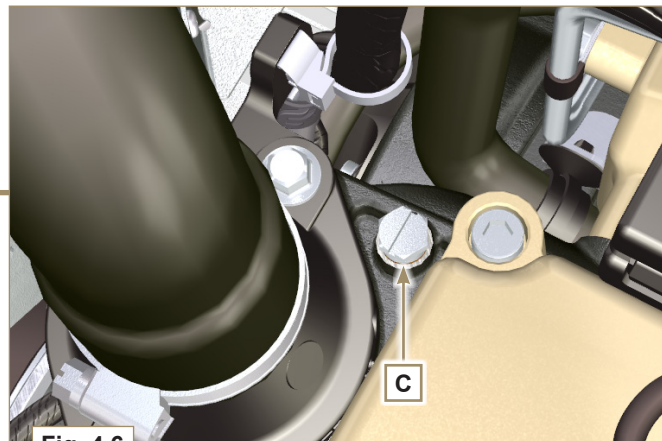

Fig. 4.6
- 4 - Loosen the screw **C**, release any air and tighten the screw **C** (Tightening torque of 8 Nm - Fig. 4.6).